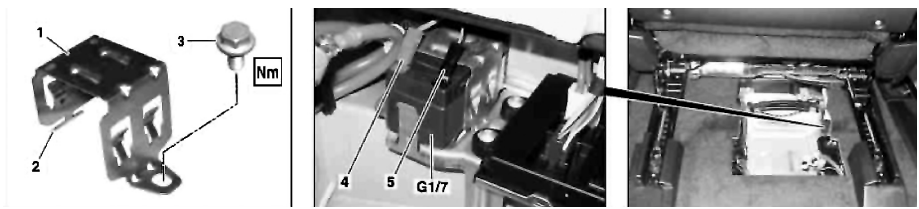

Fig. 2 Auxiliary battery removal
auxiliary battery (G1/7), **Fig. 2**.
3. Detach plug on positive terminal (4) of auxiliary battery (G1/7), **Fig. 2**.
4. Remove bolt (3) and open retaining clamp (1), **Fig. 2**.
2. Install retaining clamp (1) and ensure that anchor fitting (2) engages into frame-side retaining panel, **Fig. 2**.